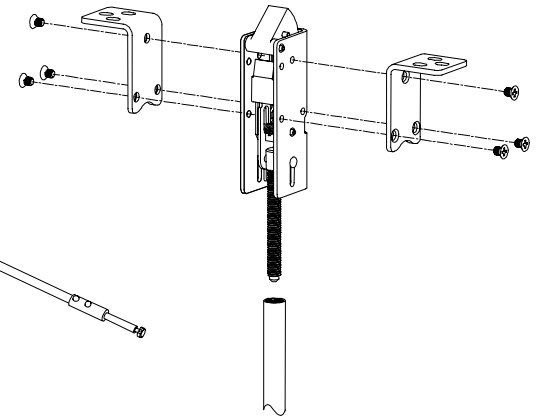

Figure 6-2
- 6.2. Attach brackets to top latch, then thread rod assembly onto latch (Figure 6-2).